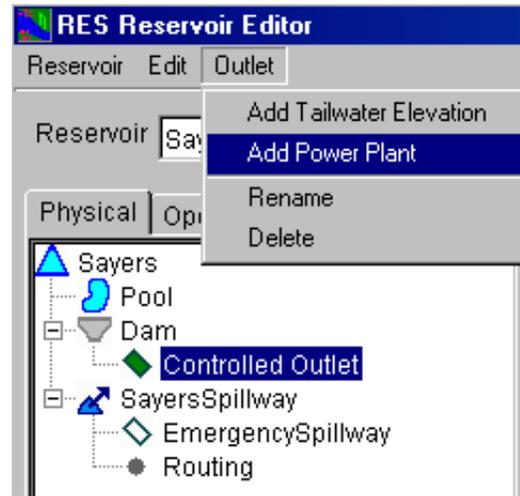
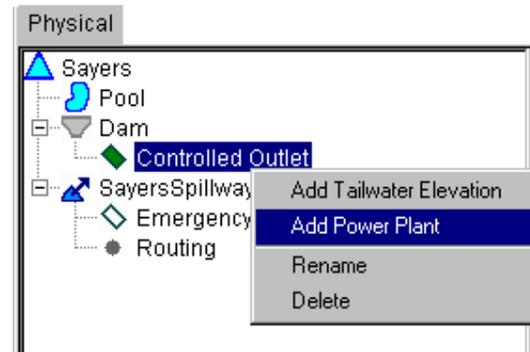

Figure 10.14 Reservoir Editor, Physical Tab: Outlet Menu - Add Power Plant
Figure 10.15 Controlled Outlet Shortcut Menu: Add Power Plant
Additionally, as shown in Figure 10.15 you can add **Tailwater Elevation** (Section 10.10) and **Power Plants** (Section 10.8.2) as components of Controlled Outlets.
2. Select **Add Power Plant** from either the **Outlet** menu in the Reservoir Editor's menu bar (Figure 10.14) or the right-click shortcut menu (Figure 10.15).